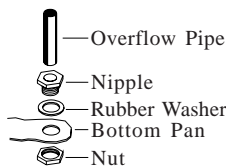

Fig. 2
- **Install overflow assembly.** Remove nut and place nipple through the hole in the pan, with the rubber washer between the pan and the head of the drain nipple (Fig. 2). Screw on nut and draw up tight against bottom of pan. Insert overflow pipe in nipple to retain water. Overflow pipe may be removed to drain pan when necessary. A garden hose may be screwed on the drain nipple to drain water away from your unit.